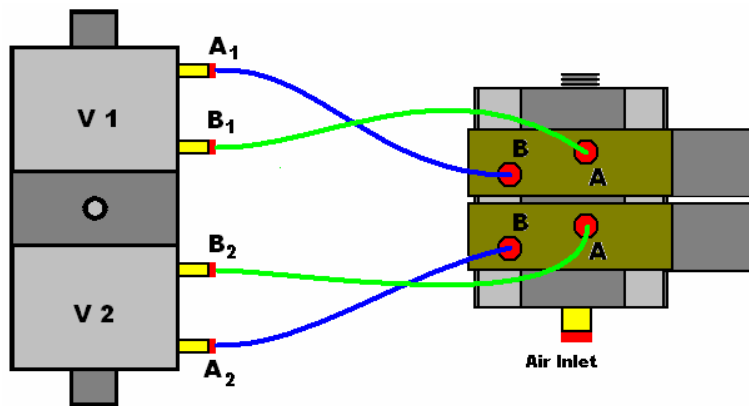

Figure 3-5
- If normally-open CV operation is desired for a CV-310 Valve, connect the solenoid pilot valves to the CV-310 Valve as shown in Figure 3-5.